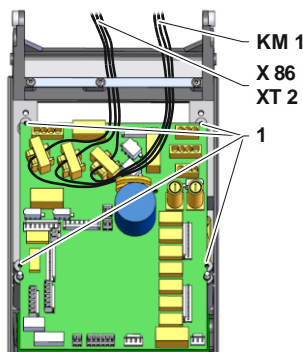

Fig. 3: Remove GIF-51
- Remove screws (label 1 → Fig. 3) on the sides of the circuit board.